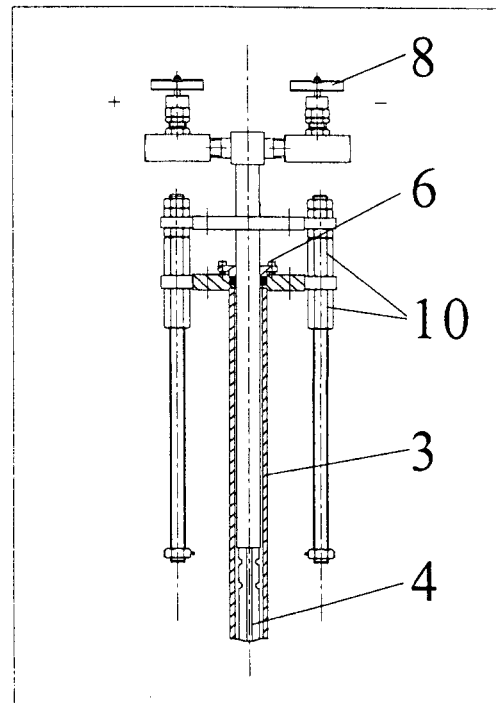

Abb. 19: Sensorprofile in working position type FTH-25/26 and FTH35/36
4. Upon completion of the Flo-Tap insertion, the threaded rods and nuts of the insert - retract mechanism should be in a position as shown Fig. 19/20.